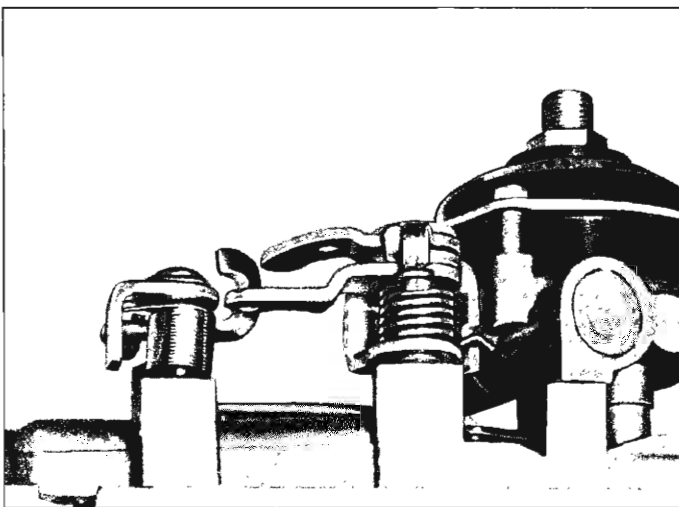

Fig. 27—Throttle Shaft Levers—Installed
3. Install secondary throttle shaft dog lever and spring. Wind spring one turn (fig. 27).